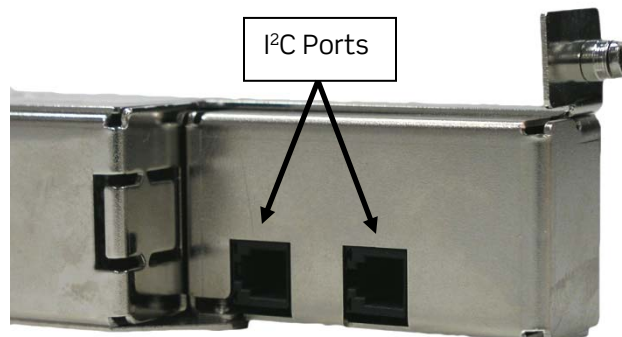

Figure 15 - EC1000 Controller
- a. If there is a telephone-like cable with RJ11 connector on the left side of the breaker panel, run the unconnected end out the left wall of the distribution and down to one of the RJ11 ports of the EC1000 (there are only two available; see Figure 15). This is the I²C communication cable.